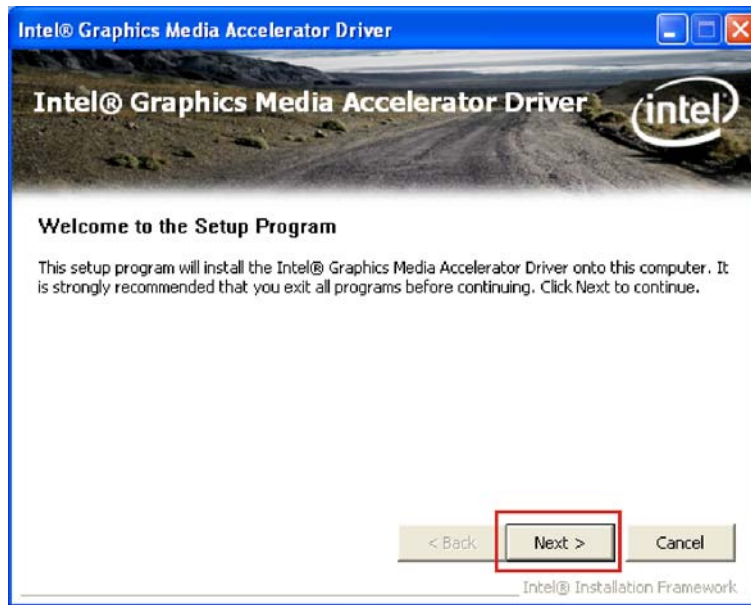

Figure 6-10: Graphics Driver Installation Welcome Screen
Step 6: The welcome screen appears (Figure 6-10).